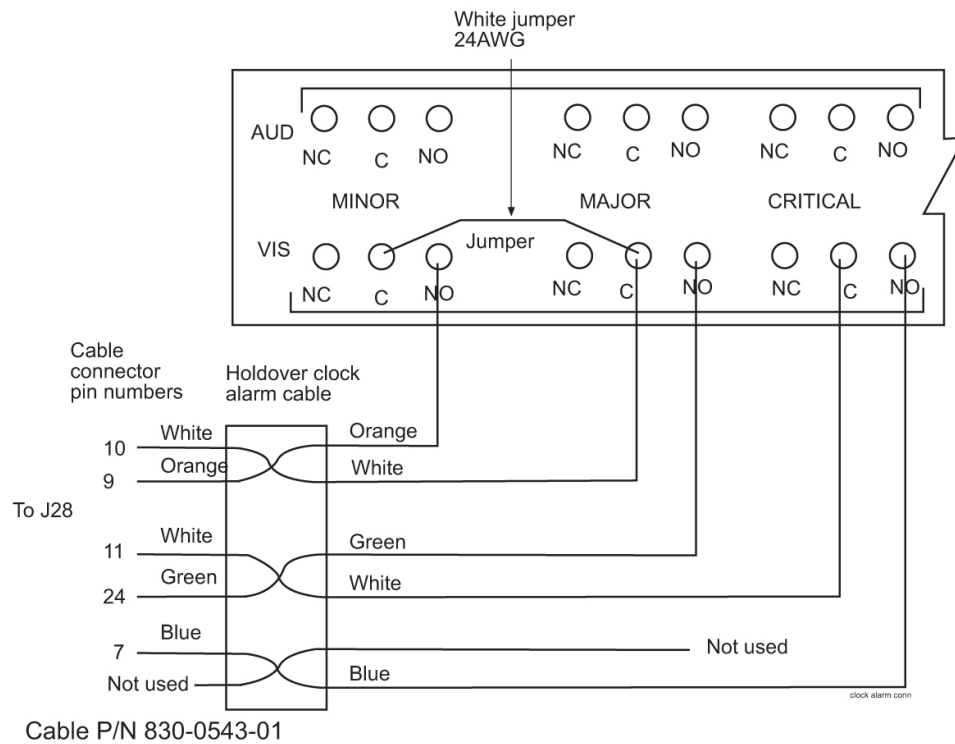
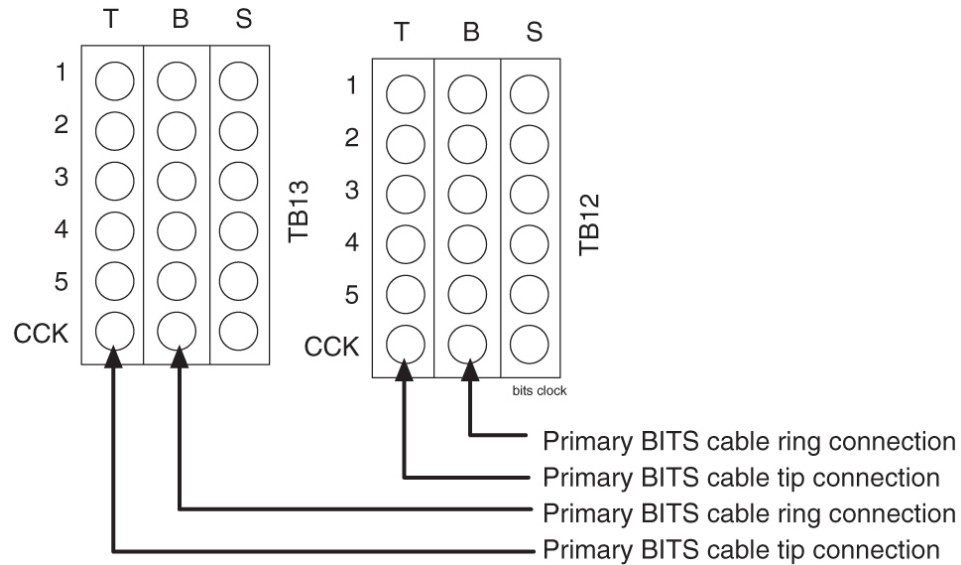

Figure 118: Holdover Clock Alarm Connections
Figure 119: BITS Clock Source Connections
The installation connections are shown in the wiring layouts in Figure 118: Holdover Clock Alarm Connections and Figure 119: BITS Clock Source Connections.
The external alarm cable is an optional cable that may go from the EXTALM to a terminal block see Figure 118: Holdover Clock Alarm Connections.
10. Wire-wrap a 24-gauge jumper-wire between the minor and major common alarm connector pins as shown in *Figure 118: Holdover Clock Alarm Connections*.
11. Cut the wires to length, strip, and wire-wrap to the holdover clock at the locations shown in *Figure 118: Holdover Clock Alarm Connections*.
8. Cut the wires to length, strip, and wire-wrap to the holdover clock at the locations, TB12 and TB13, see Figure 119: BITS Clock Source Connections.